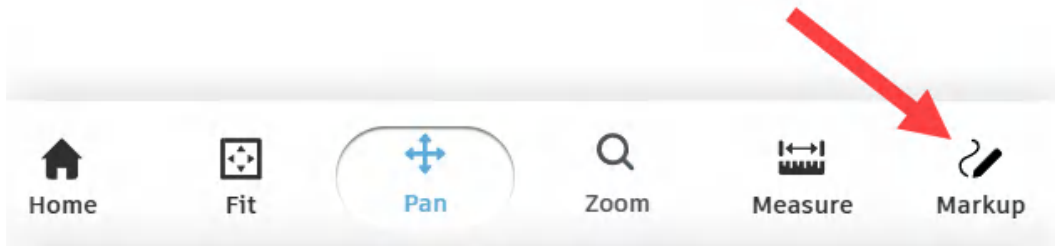

Figure 13.24: The Markup icon in the Autodesk Viewer
2. Click on the **Markup** icon at the bottom of the screen, as shown in *Figure 13.24*.